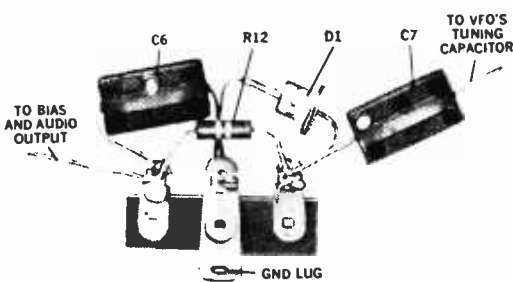

Fig. 4. Four components, when assembled on a terminal strip, comprise the complete FM modulator.
**Installation and Checkout.** If space permits, the modulator and audio amplifier can be built on the same circuit board, and housed in the VFO unit (Fig. 3). Otherwise, the few modulator parts can be wired in the VFO as shown in Figs. 4 and 5, while the mike amplifier is put in its own enclosure and placed alongside of the VFO. Then these two units can be connected with a short length of